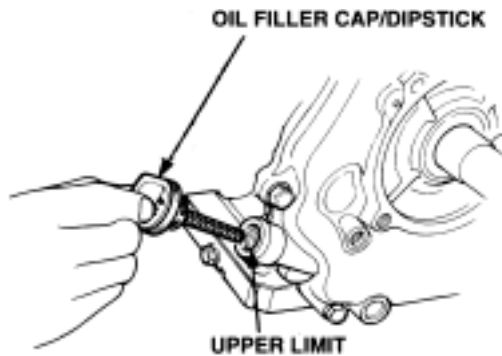

Figure 17: Checking Oil Level
- (4) Install the drain plug, and tighten it securely.
- (5) Refill with the recommended oil (Figure 12). Check the oil level. Install the oil filler dipstick/cap (Figure 17).